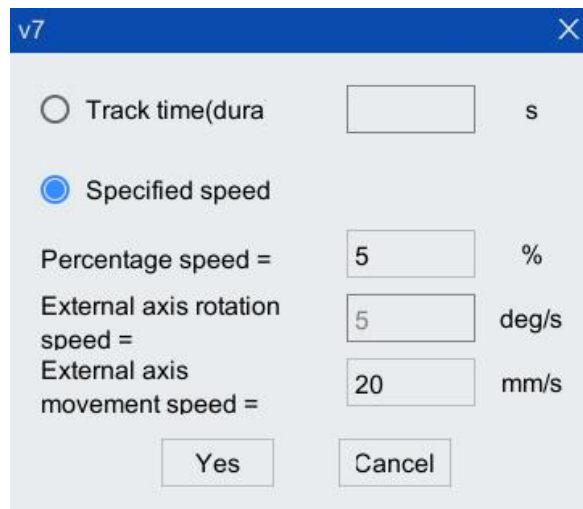

Figure 5-13 "v" variable setting box
Step3. For the speed parameter v, you can enter the value directly in the edit box to complete the speed percentage setting. You can also click <...> button to modify the specific velocity value in "v" variable setting box, as shown in Figure 5-13. After modification, click <Yes> button.
- Step5. The text box behind the trajectory time dura is read-only. The displayed data needs to be set in the "v" variable configuration interface as shown in Figure 5-13. After modification, click the <Yes> button.